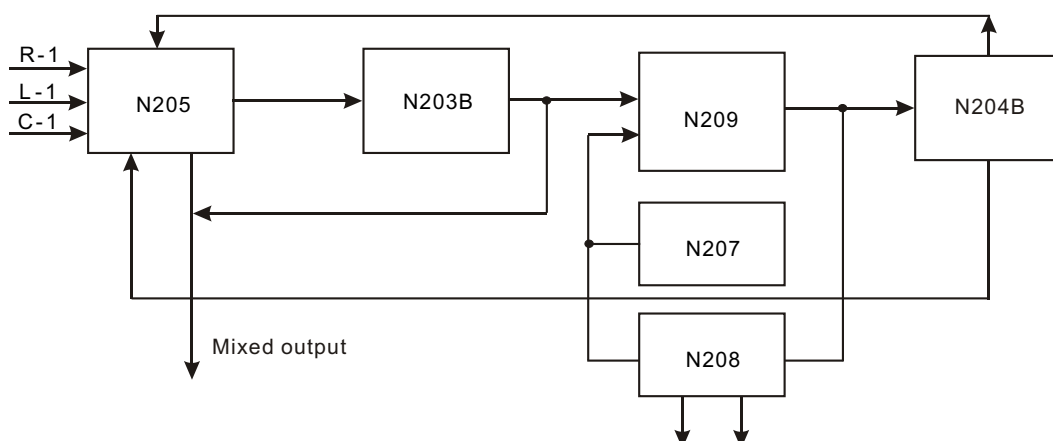

Figure 3.2.2.2 Scene mode signal flow chart
AV225T (RU) has a special function, that is, it may realize switch in 5 kinds of scene mode when there is no Karaoke, which is fulfilled by Karaoke part. Signal flow chart is shown as in the figure 3.2.2.2: